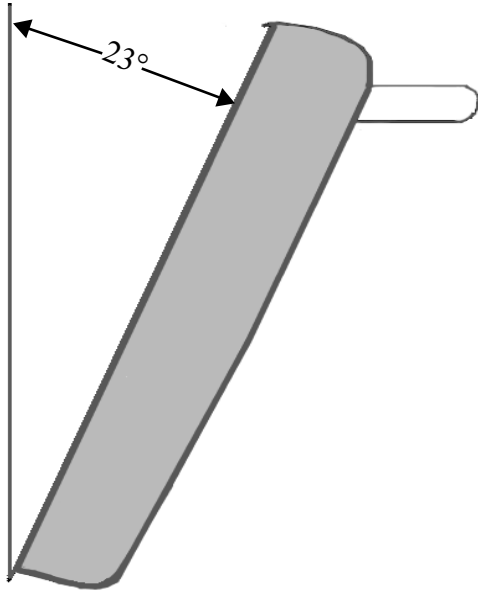

FIGURE 8: APPROXIMATE DOOR ANGLE FOR REMOVAL
1. Position the door at a sharp angle (see *Figure 8*) and insert the hinges centered evenly into the hinge slots. The hinges will securely hook into the slots when properly installed. Do not force, bend, or twist the door.